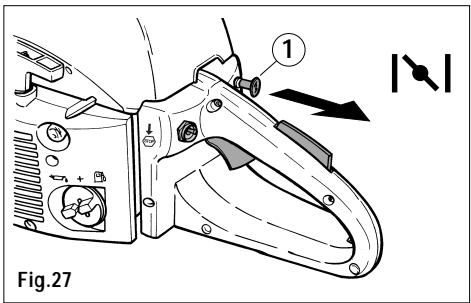

Fig.27
- 3) Pull the air knob fully out (fig. 27 part 1). Press the fuel bulb (Primer) fully down repeatedly (fig. 27 part 2).